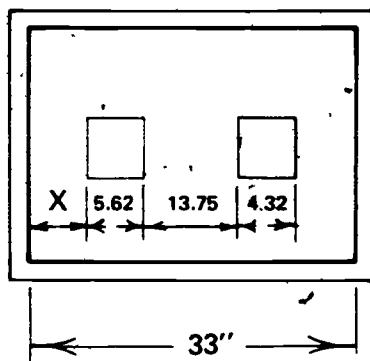

FIGURE 4
3. Find X in the following layout dimensions (Figure 4)